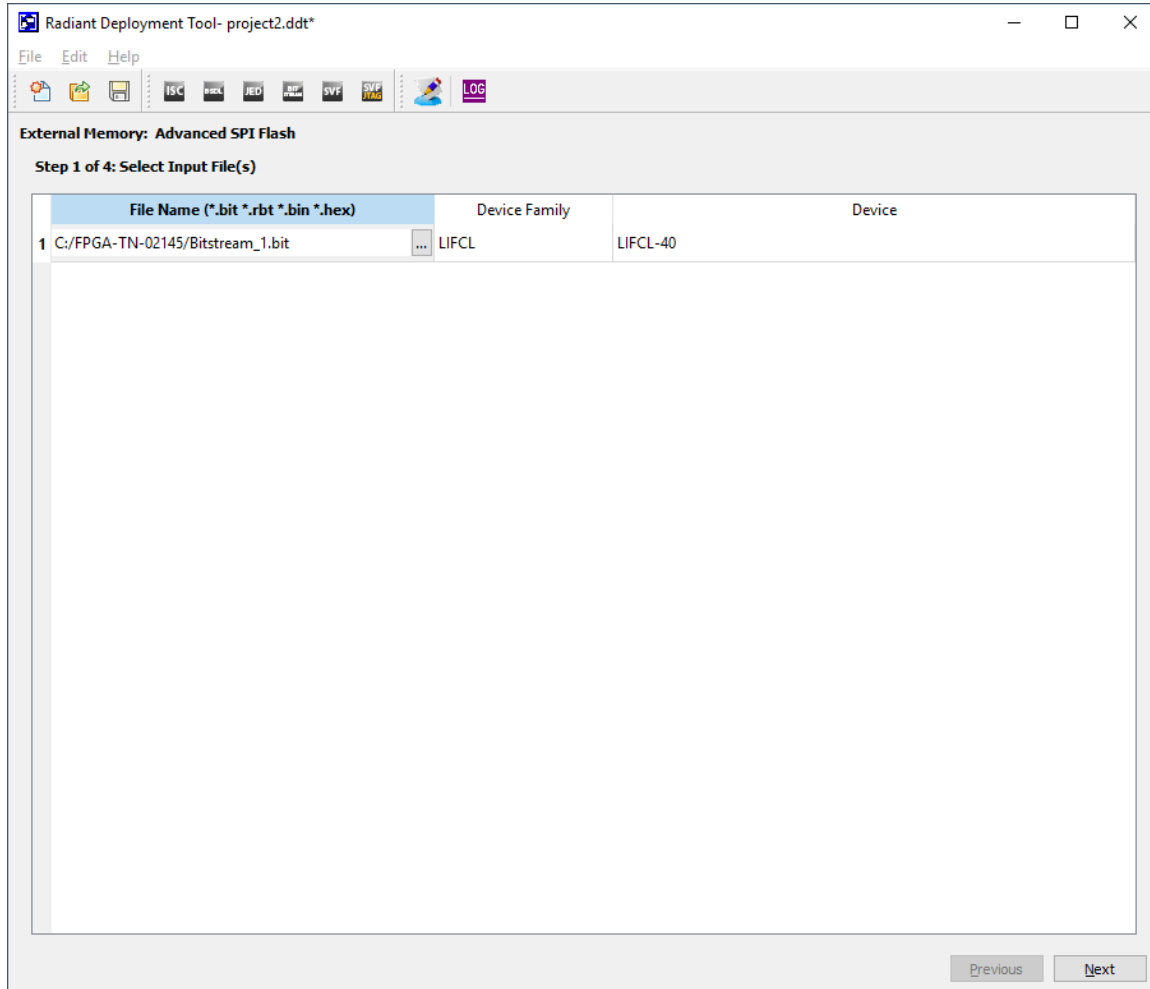

Figure 6.12. Select Input File Window
Step 1 of 4: Select Input File(s) window (Figure 6.12)